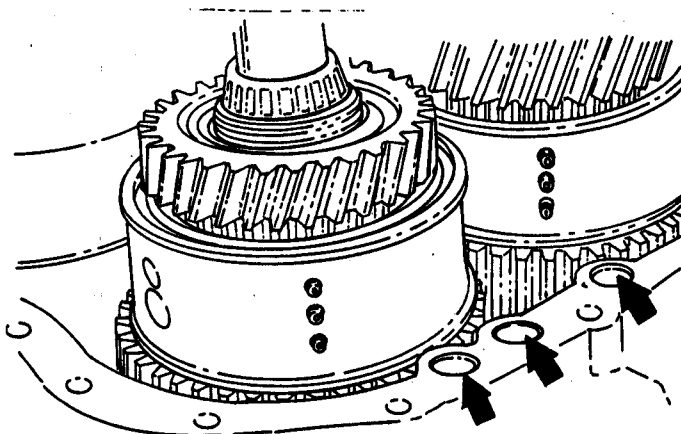

Figure 11.
13. Note the three o-rings fitted next to the input and reverse clutch assemblies. See Figure 11.